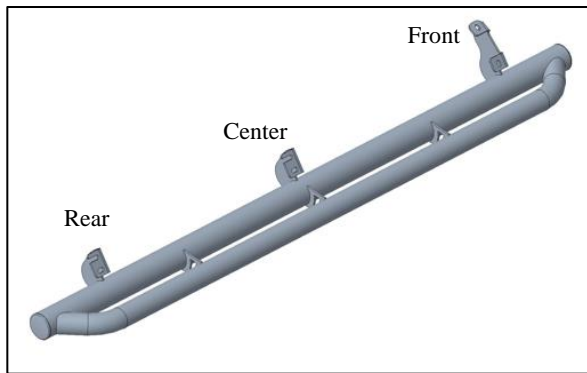

Fig. 2-1
- Note the bracket positions of the passenger side Rock Rail (Fig. 2-1).
**NOTE:** The long bracket goes to the front of the vehicle (Fig. 2-1).